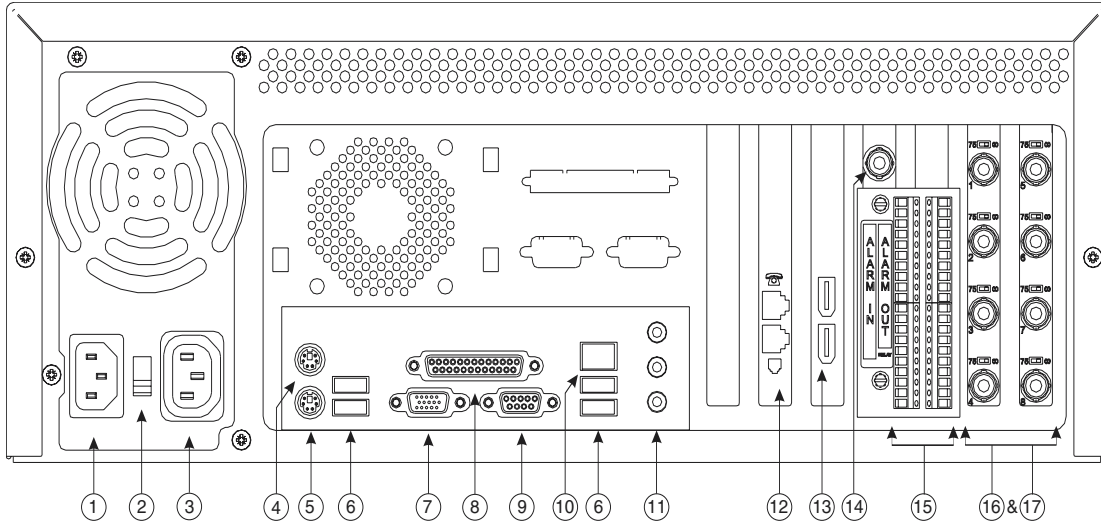

Figure 1 — Rear Panel Connectors
- Connect the Mouse** You must connect the mouse cable to the upper PS/2-style connector (#4 in Figure 1 below) on the rear of the unit. The lower PS/2-style connector (#5 in Figure 1) is for a keyboard (optional).
- Connect the VGA Monitor** The monitor must be connected to the VGA connector (#7 in Figure 1).
- Connect the Cameras** Connect the video cables from the cameras to the BNC connectors on the rear of the DV8000 (#16 and #17 in Figure 1 below). Terminate the video using the switches at each BNC connector or using the Intellex Setup screen. If you use the switches to select the 75 Ohm termination, you MUST select Hi-Z in the Intellex Setup screen. If you wish to use the Intellex Setup screen to select the 75 Ohm termination, you MUST set the switches at each BNC to Infinity ( $\infty$ ).
- Connecting the Power** Connect the provided power cable to the power entry connector on the DV8000 (#1 on Figure 1). **BE SURE TO SELECT THE CORRECT VOLTAGE (#2 on Figure 1) BEFORE CONNECTION TO THE POWER SOURCE.** The DV8000 will start running as soon as the power source is connected.